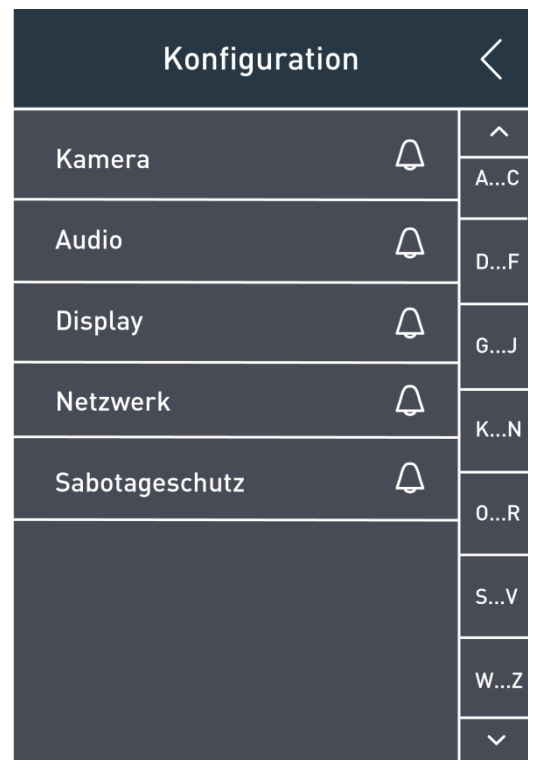

Fig. 11: Configuration menu
- ▶ Hold the red RFID card in front of the RFID reader. The configuration menu is displayed (Fig. 11).